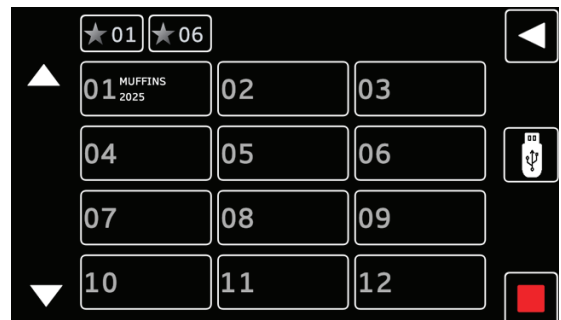

Figure 14-3.
3. Select an empty button to enter a recipe (1-24). (Figure 14-3).